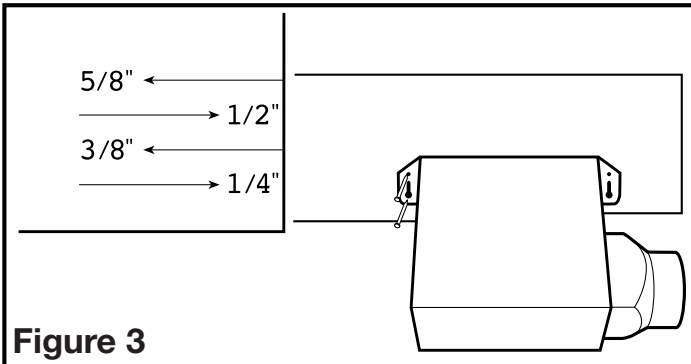
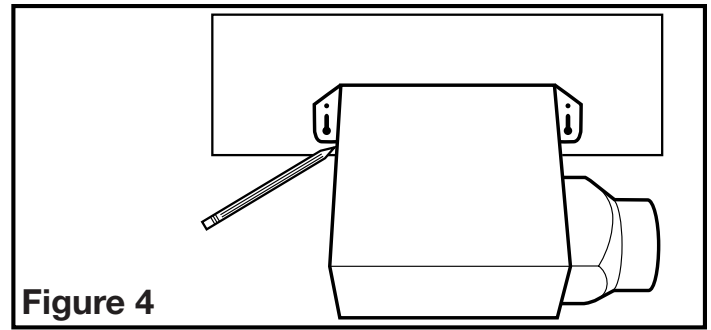

Figure 3
Figure 4
1. Using the gauge on the fan's housing (Figure 3), line up housing so that it will be flush with the finished ceiling or wall. Position the fan so that the tabs rest flat against the joist or stud and secure with four nails (not provided) to ensure proper installation.
1. Position housing against the joist or stud and trace an outline of the housing onto the ceiling/wall material (Figure 4). Set housing aside and cut opening, being careful not to cut or damage any electrical or other hidden utilities. Place housing next to the joist or stud and insure that it is flush with the finished ceiling. Secure with four nails (not provided) to ensure proper installation (Figure 3).
1. Connect the ducting to the fan's duct collar (Figure 4). Secure in place using tape or screw clamp. Always duct the fan to the outside through a wall or roof cap.